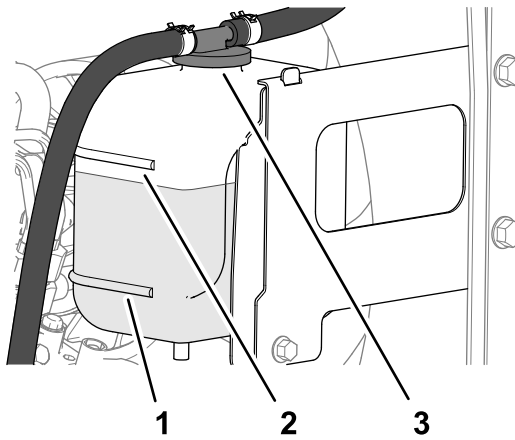

Figure 103
3. Check the level of coolant in the expansion tank (Figure 103).